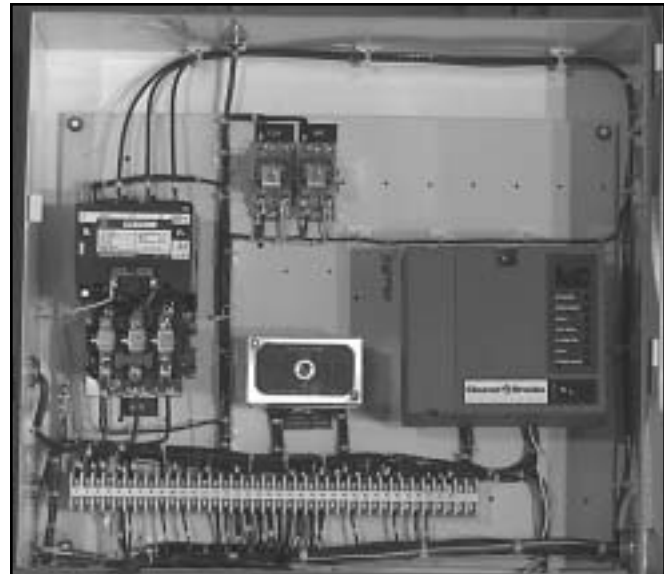

Figure: 2-10 Control Box
8. Atomizing Air Proving Switch (Figure 2-10): A pressure-sensitive switch actuated by air pressure from the Air Pump. Its contacts close to prove presence of atomizing air. The fuel valves cannot be energized unless this switch is satisfied.
18. Indicator Lights (Figure 2-10): Provide visual information of boiler operation as follows (indicator lights vary with controls provided):
1. Gas Pilot Valve (Figure 2-10): A solenoid valve that opens during the ignition period to admit fuel to the pilot. It closes after main flame is established. The sequence of energizing and de-energizing is controlled by the programming relay. A second gas pilot valve may be required by insurance regulations.
2. Gas Pilot Vent Valve (Figure 2-10): When a second gas pilot valve is required, a normally open vent valve (optional equipment) is installed between them. Its purpose is to vent gas to the atmosphere, should any be
3. Gas Pilot Shutoff Cock (Figure 2-10): For manually opening or closing the gas supply to gas pilot valve.
4. Gas Pressure Gauge (Figure 2-10): Indicates gas pressure to pilot.
5. Gas Pressure Regulating Valve (Figure 2-10): Reduces incoming gas pressure to suit the pilot.